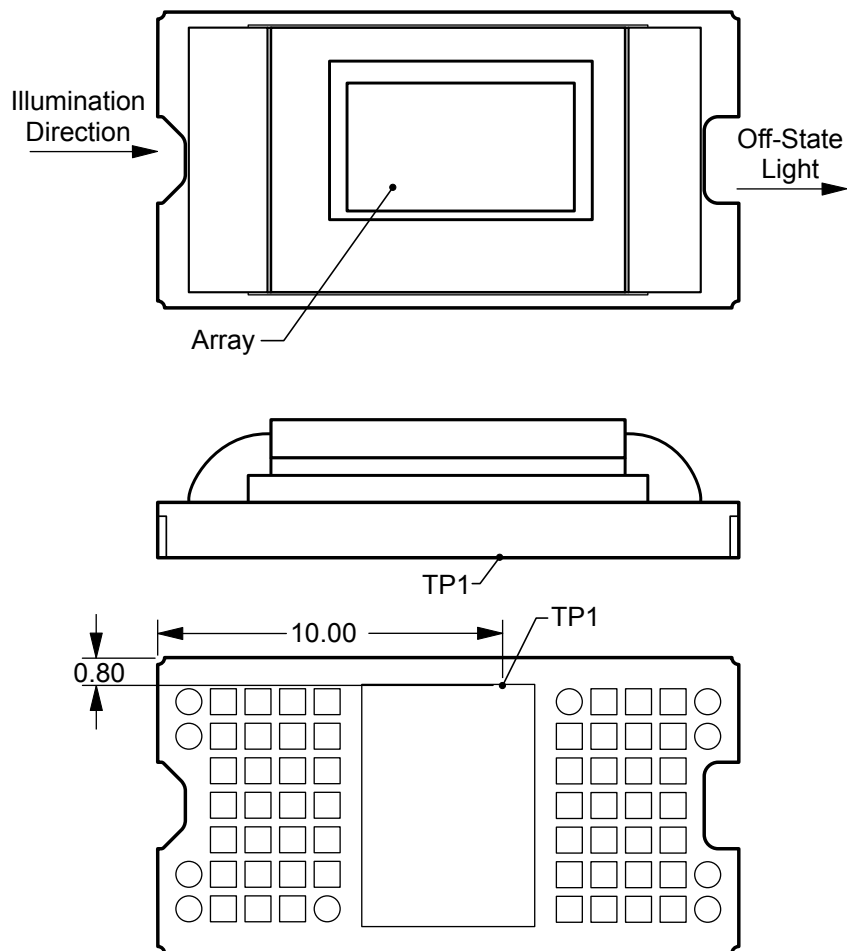

图 7-8. Thermocouple Location
Relationship between array temperature and the reference ceramic temperature (thermocouple location TP1 in 図 7-8) is provided by the following equations.
- T_{CERAMIC} = measured ceramic temperature (TP1 location in 図 7-8) ($^{\circ}\text{C}$)